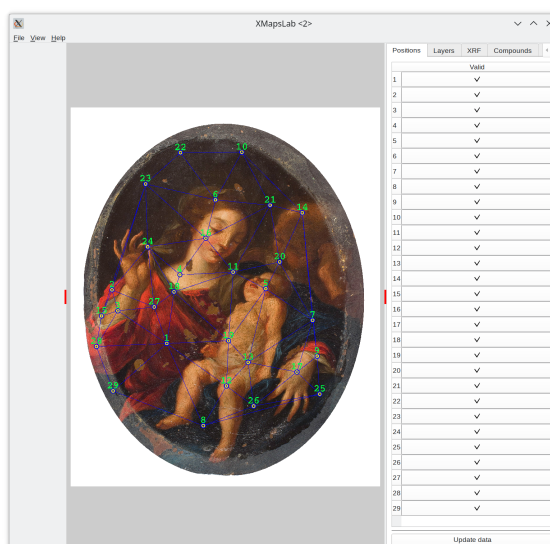

Figure 5.24: The triangulation is shown.
- * **Normal**: This option displays the Delaunay triangulation without including the corners (**Figure 5.24**).